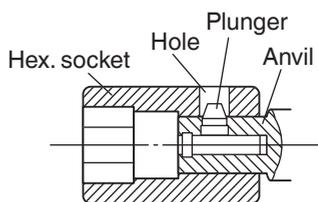

Fig. 3
### (1) WR22SE: Plunger type (Fig. 3)